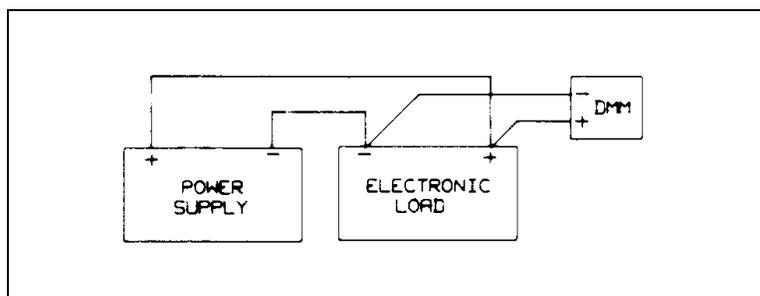

Figure 2-2. Test Setup B
a. Connect the Electronic Load, power supply (HP6032A or equivalent), and DMM as shown in Figure 2-2. Take care in making connections so that contact resistance voltage drop will not affect the readings.